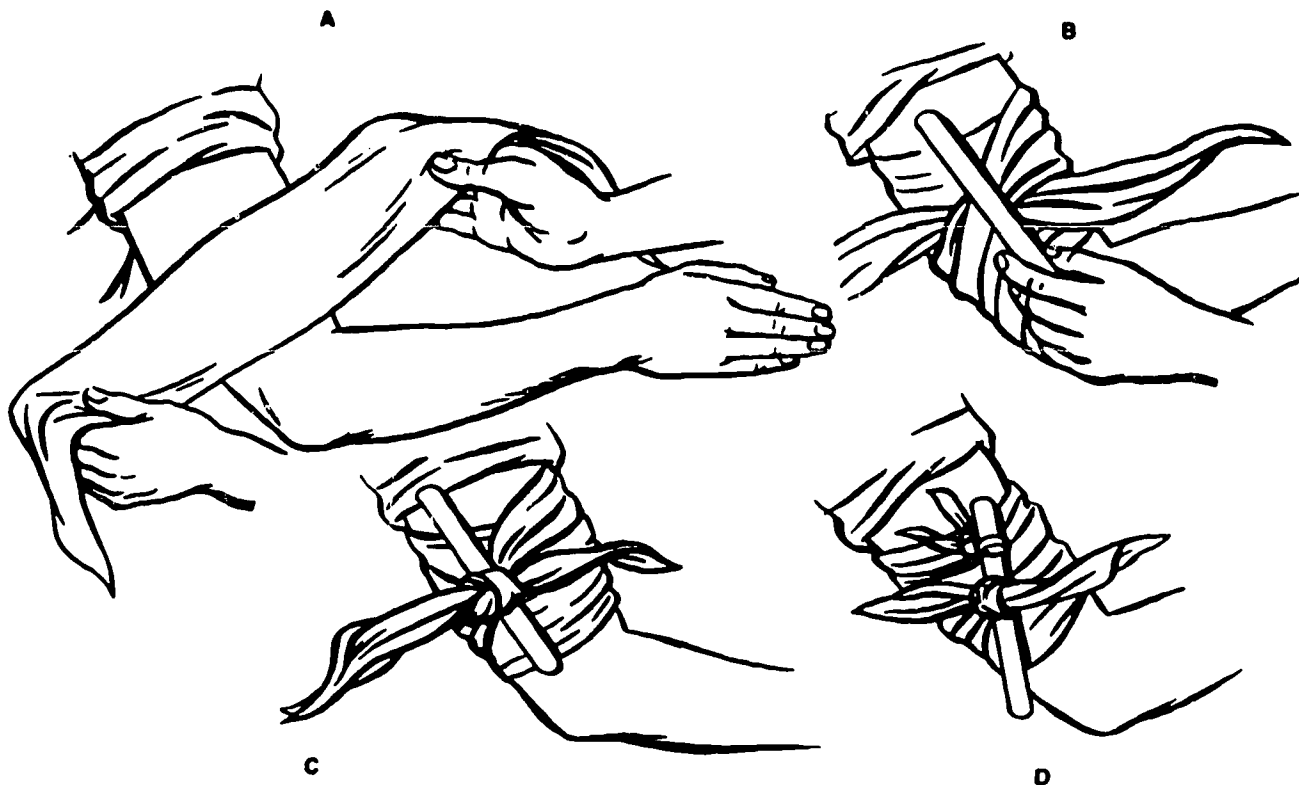

Figure 4-24. Tourniquet application.
a. Wrap the tourniquet band twice tightly around the limb and tie in a knot (see fig. 4-24,A).
b. Place a strong, short stick, or some similar object, on top of the knot. Tie two more knots on top of the stick (see fig. 4-24,B).
c. Twist the stick to tighten the tourniquet until the bleeding stops (see fig. 4-24,C).
d. Secure the stick in place with the loose ends of the tourniquet or another strip of cloth (see fig. 4-24,D).